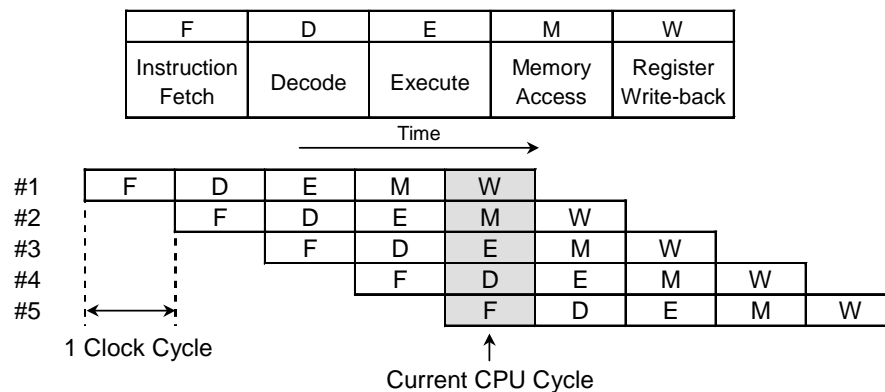

Figure 5-1 Five CPU Pipeline Stages
As described in Section 2.5, *Pipeline Architecture*, the processing of an instruction is broken down into a sequence of simpler suboperations. Because tasks required to process an instruction are fragmented, an instruction does not need the entire hardware resources of the execution unit. Each suboperation is performed by a separate hardware section called a *stage*, and each stage passes its result to a succeeding stage. The TX19 pipeline has five stages, Fetch (F), Decode (D), Execute (E), Memory Access (M) and Register Write-back (W). For example, after an instruction completes the D stage, it can proceed to the E stage while the subsequent instruction can advance into the D stage. Each of the five pipe stages require approximately one clock cycle. Therefore, once the pipeline has been filled, the execution of five instructions is overlapped at a time, as shown in Figure 5-1.